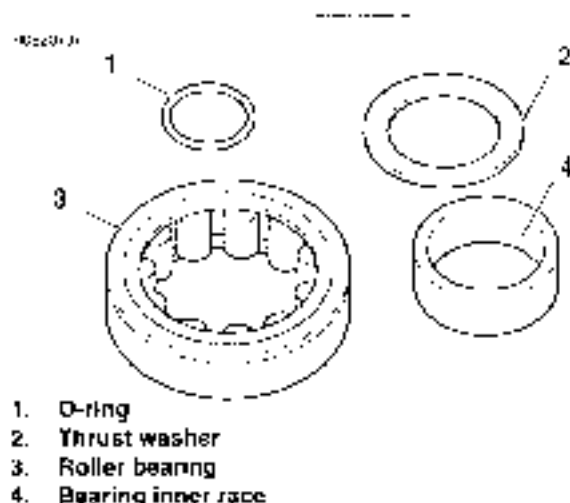

Figure 3-135. Rear Cam Roller Bearing Kit
1. See Figure 3-135. Obtain new rear cam roller bearing kit (Part No. HD-8983).
- a. To properly locate thrust washer (2), first install O-ring (1) in grinding relief groove. Groove is on the splined end and between the machined area and the secondary cam sprocket. Exercise caution to avoid stretching or breaking the O-ring. Since the O-ring is not sold separately, damage will require purchase of a new roller bearing kit.